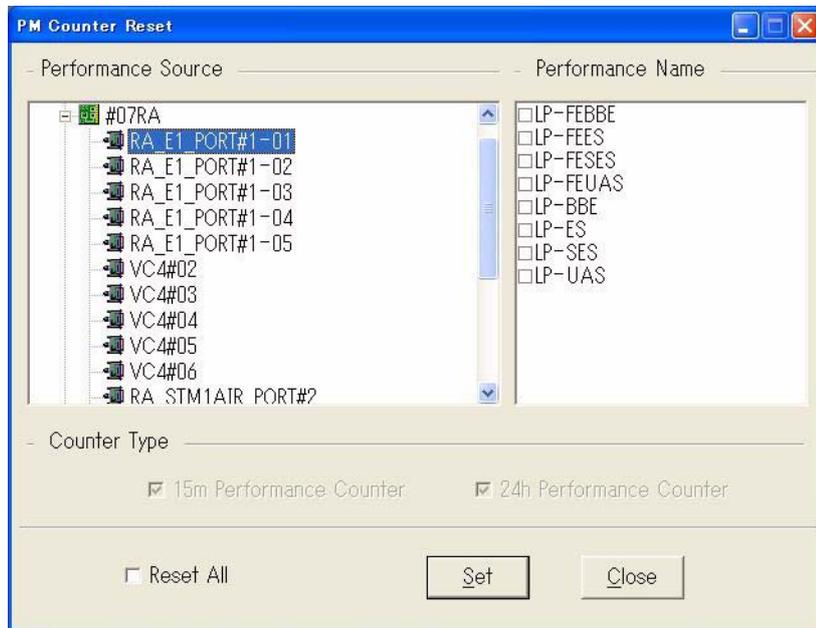

Fig. 4-7-22 Performance Counter Reset Dialog Box
The performance of the equipment can be reset via the **Performance Counter Reset** dialog box. *Fig. 4-7-22* shows an example:
- 3 Select **PM Counter** Reset from the **Performance** menu. The **Performance Counter Reset** dialog box shown in *Fig. 4-7-22* appears.